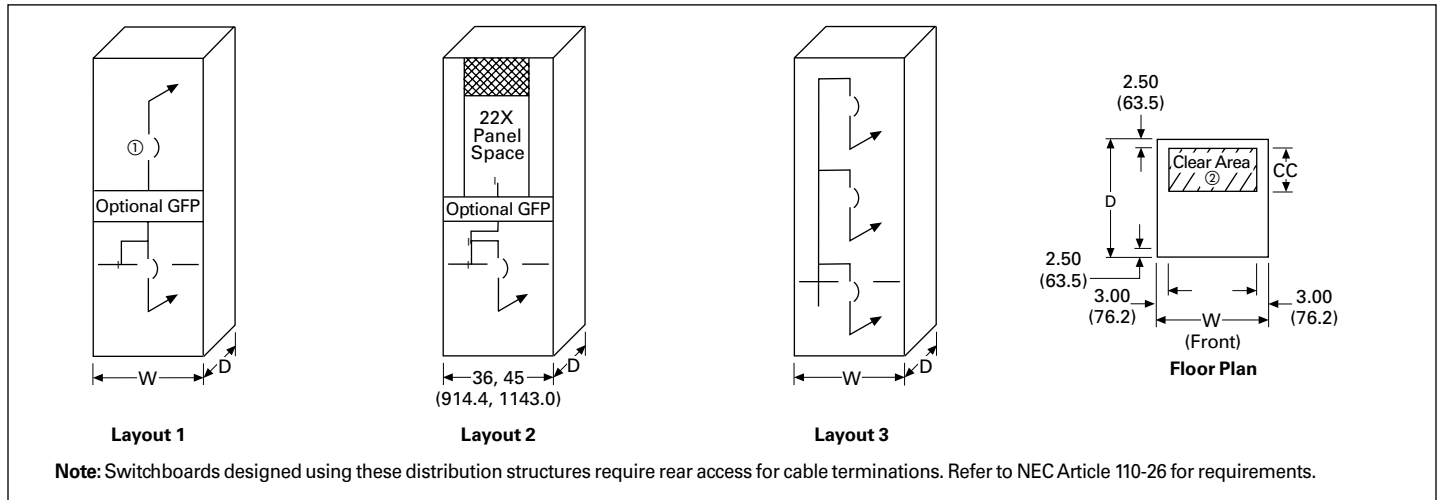

Figure 21.1-16. Individually Mounted Feeder Layouts—Dimensions in Inches (mm)
- ① When using top-mounted (bottom feed) inverted bolted switches, verify acceptance with code authorities.
- ② For **Layout 2**, width will be 36.00 or 45.00 inches (914.4 or 1143.0 mm) depending on size of panel mounting devices. Refer to **Page 21.1-38**.
Table 21.1-31. Stacked Distribution Structure Sizes for Figure 21.1-16 Layouts 1 and 2—Dimensions in Inches (mm) ③
Table 21.1-32. Stacked Distribution Structure Sizes for Figure 21.1-16 Layout 3 Only—Dimensions in Inches (mm)